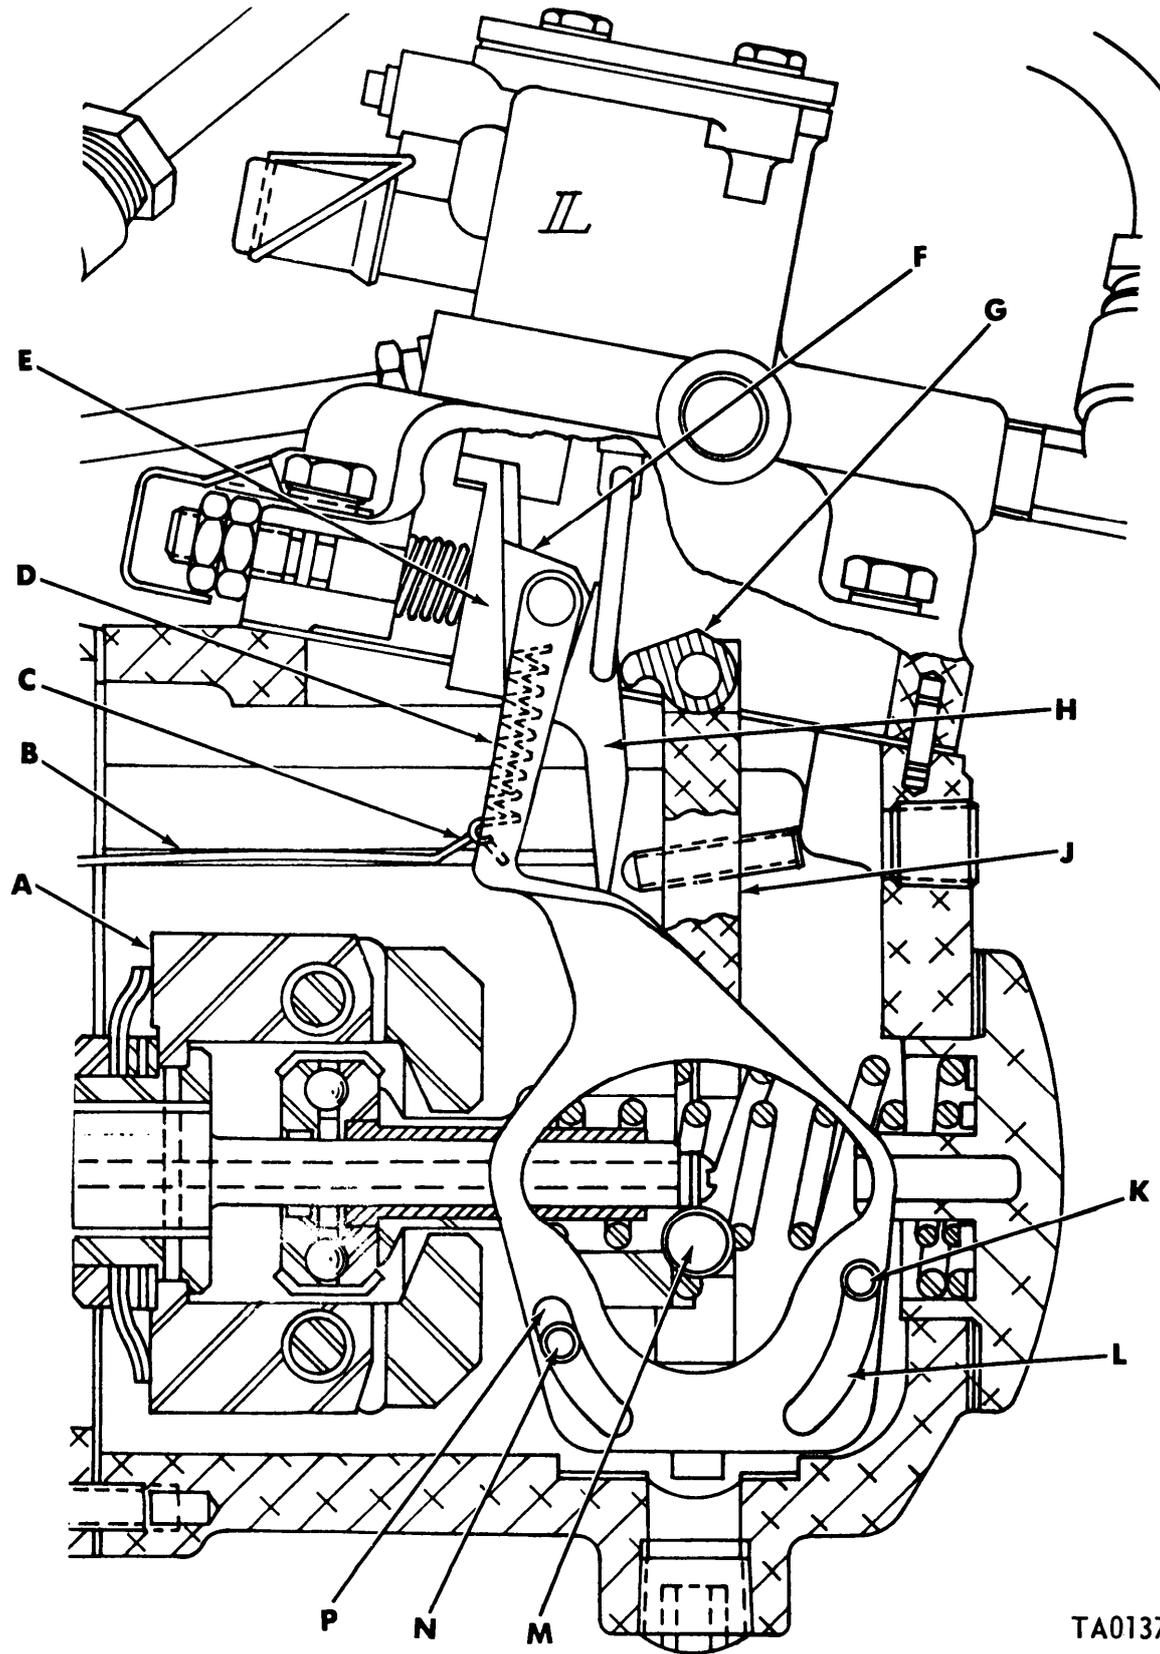

Figure 1-18. Governor assembly with torque link (code A), sectional view.
a. The governor, with its weight and spider assembly attached to the camshaft, is an integral part of the fuel injection pump. The governor is a variable speed, mechanical and centrifugal type. The governing action is accomplished by two governor weights (UU) acting against a movable sliding sleeve (VV) which is backed up by governor inner and outer springs (RR and SS) loaded in opposite directions.
(1) The governor on code A injection pump (fig. 1-1 7) is the same except a torque control link ((D), fig. 1-18) has been added.
(2) The control link retards governor action during automatic transmission shift and does not allow engine speed or torque increase during the change of gear ratios within the transmission. This action alleviates shift shock to the transmission.
KEY to fig. 1-18